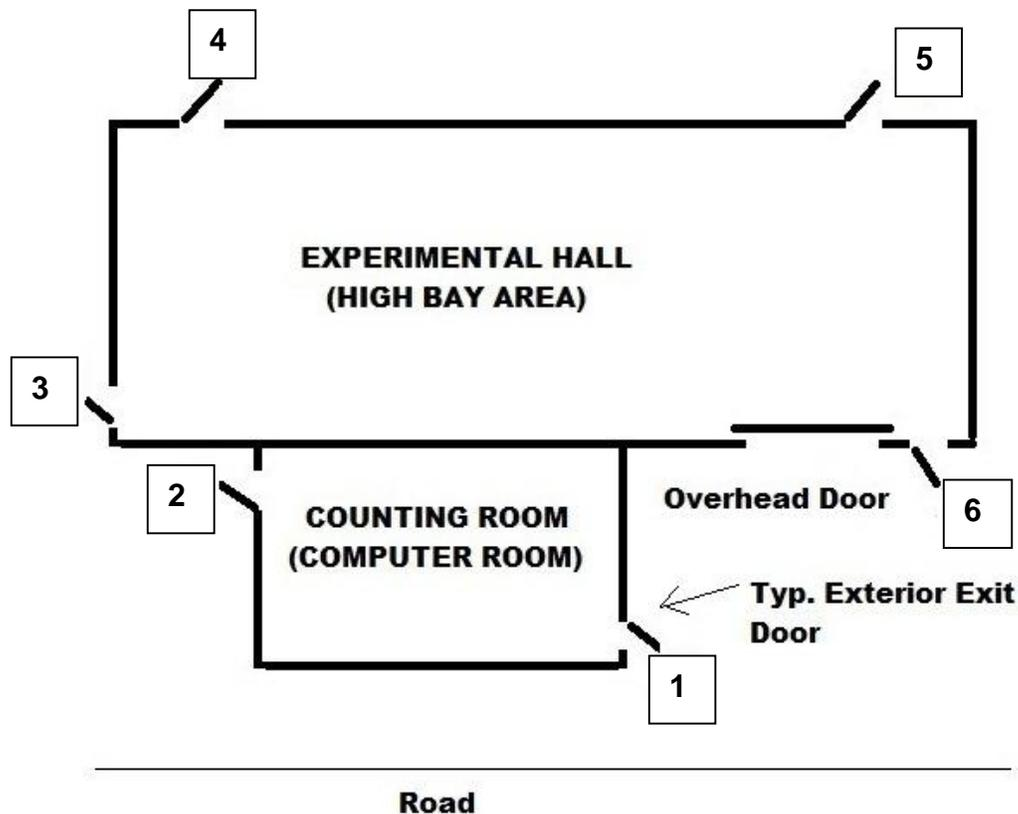

Figure No.1: Sample of Door numbering
- Larger buildings and, under the direction of the Fermilab’s Fire Department, exterior man doors will be numbered at the top right, starting at the front, street side, and then clockwise around the building, see Figure No. 1. Additional requirements are: